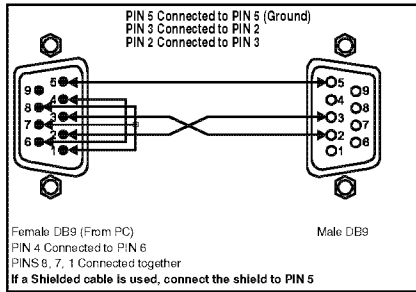

Figure 4: Connecting a PC without using a Null-modem Adapter
- Connect the RS-232 DB9 port on your PC to the RS-232 DB9 rear panel port on the Master **VP-12x8** unit, as Figure 4 illustrates